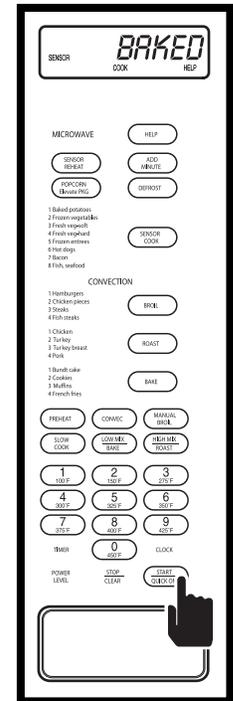

Figure 3-58.
3. Press QUICK ON/START key. When the sensor in the oven senses enough steam from the food, it will switch the microwave oven off, "END" will flash on display and alarm will beep.(See Figure 3-58)